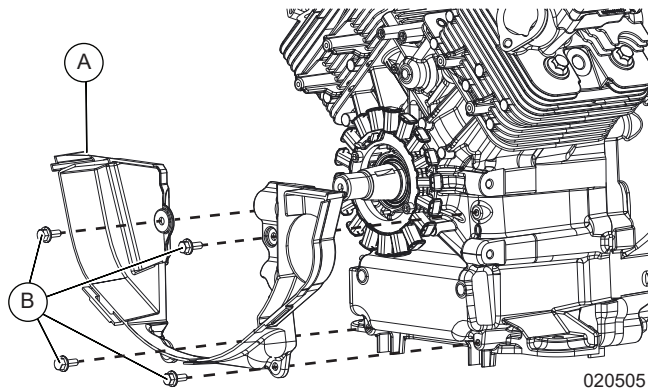

Figure 12-12. Install Backing Plate onto Crankcase
1. See Figure 12-12. Install backing plate (A) onto PTO side of engine.